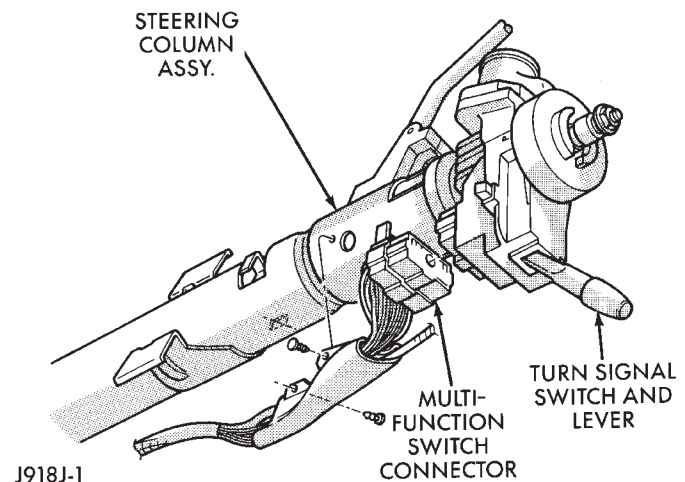

Fig. 7 Multi-Function Switch Connector - Typical
(10) Remove the lower fixed column shroud.
(11) Loosen the nuts that secure the steering column upper mounting bracket to the dash panel steering column support bracket studs. Lower the column far enough to move the upper fixed column shroud.
(12) Move the upper fixed column shroud far enough to access the rear of the multi-function switch (Fig. 7).